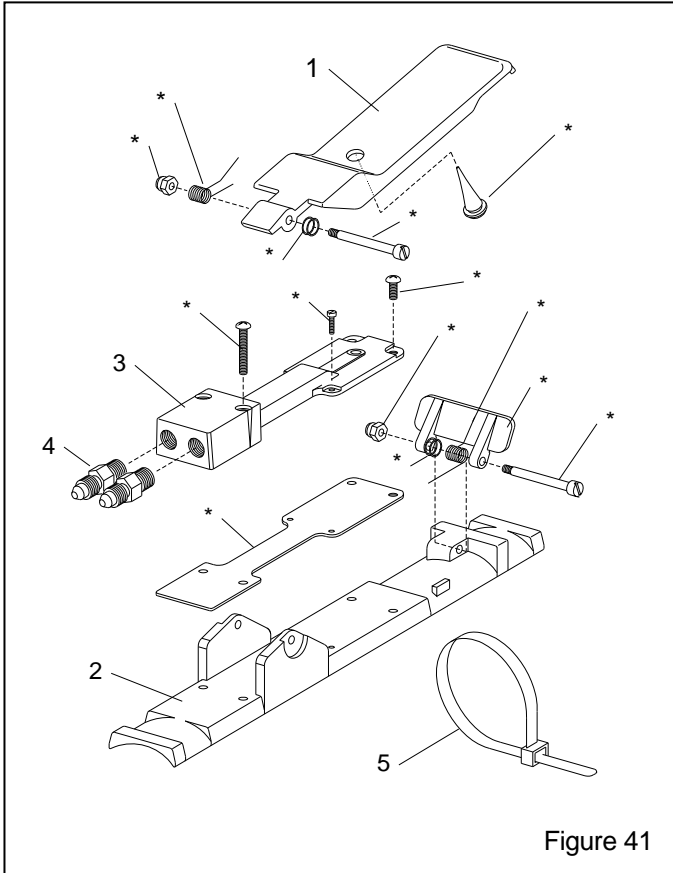

Figure 41
**8.9 RLX Pneumatic Control Handle, Figure 41**